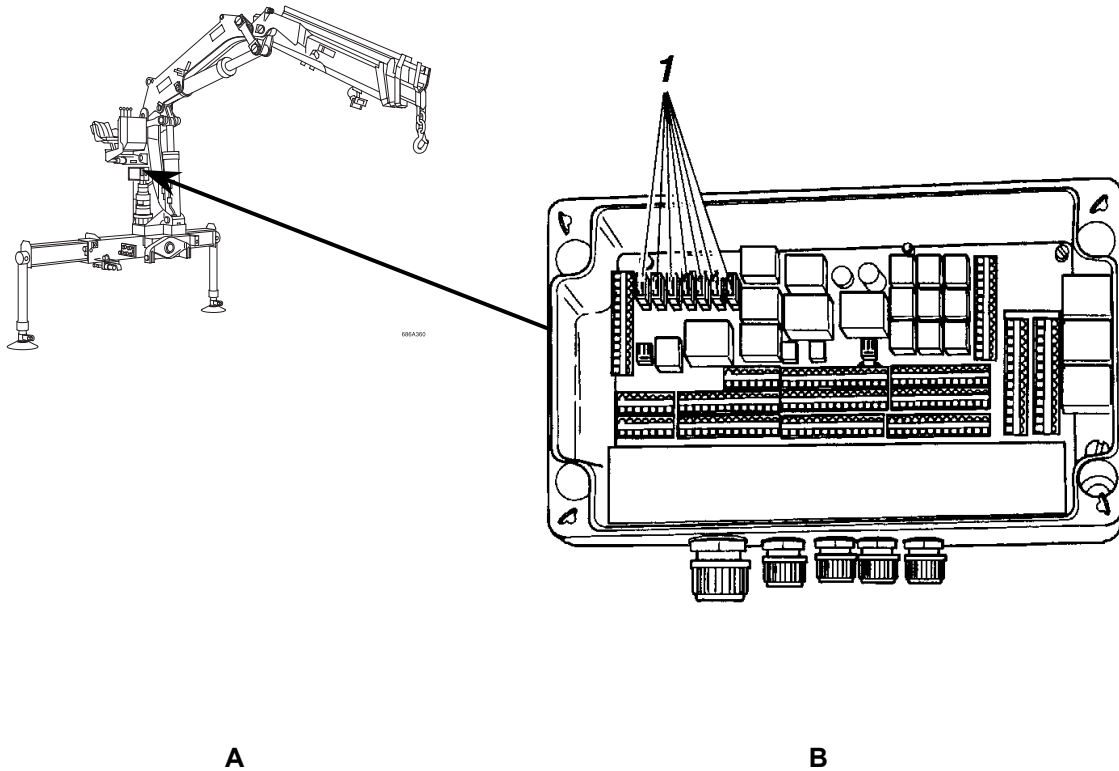

Figure 10. 1 Crane Electrical Cabinet and Fuse Locations
10.1.4.1 Check whether fuse(s) Figure 10. 1 B (1) are defective.